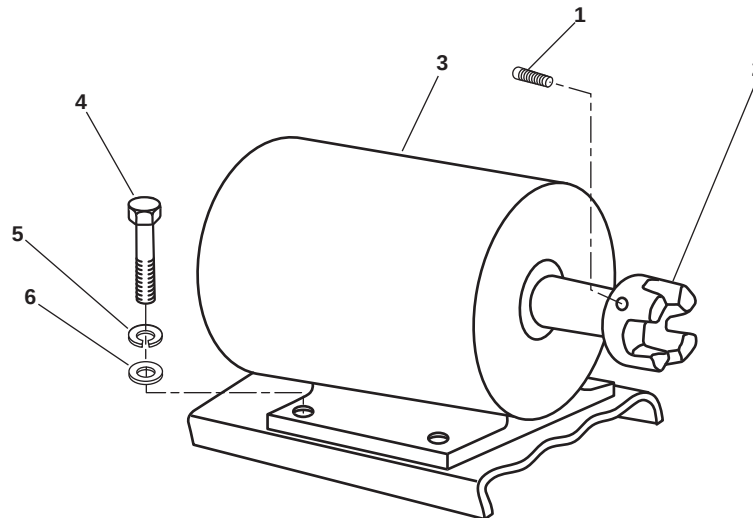

Figure 3. Electric Motor
7. Loosen the motor coupling flange setscrew (figure 3, item 1).
8. Slide the motor coupling flange (figure 3, item 2) towards the motor (figure 3, item 3).
9. Remove the four bolts (figure 3, item 4), four lockwashers (figure 3, item 5), and four flat washers (figure 3, item 6). Discard the four lockwashers.
10. Using an endless sling and chain hoist to remove the motor (figure 3, item 3) from its foundation.
11. Slide the motor coupling flange (figure 3, item 2) off the motor shaft.
1. Slide the motor coupling flange (figure 3, item 2) onto the motor shaft (refer to figure 3) with the flat end towards the motor (figure 3, item 3) housing.
2. Using an endless sling and chain hoist, position the motor (figure 3, item 3) on its foundation with the mounting holes aligned.
3. Install four bolts (figure 3, item 4), four new lockwashers (figure 3, item 5), and four flat washers (figure 3, item 6). Do not tighten at this time.
7. Tighten the motor coupling flange setscrew (figure 3, item 1).
8. Tighten the four bolts (figure 3, item 4).